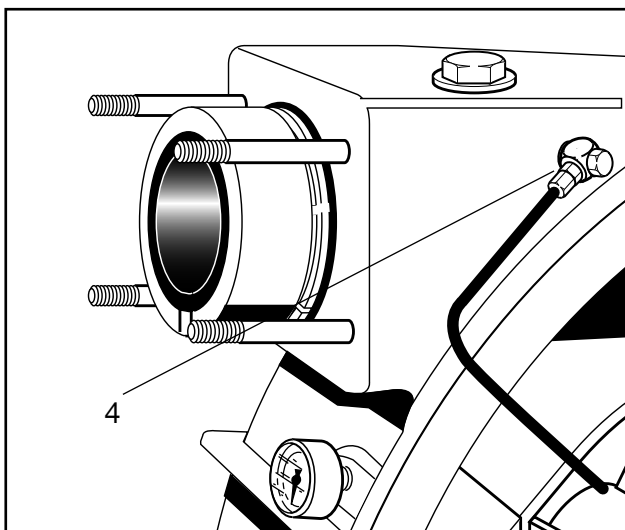
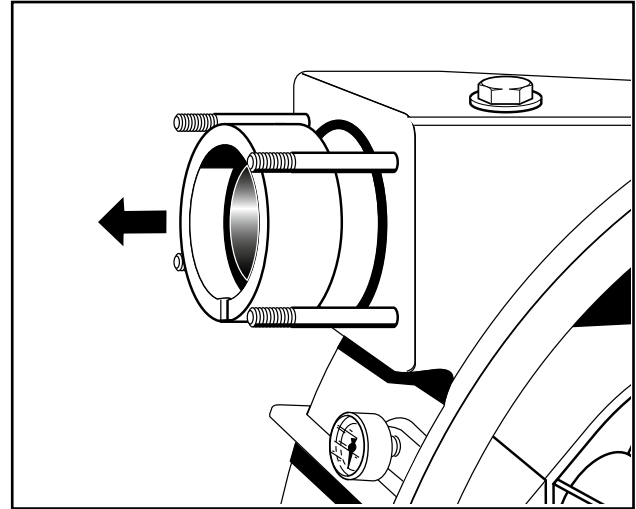

Fig. 29 4 Ventilation pipe
Fig. 30 Disassembly of clamping ring pack
6. Then remove the ventilation pipes from suction and discharge side (Fig. 29). Remove retaining ring, segment ring, step ring and O-ring from the pumping hose (Fig. 30).